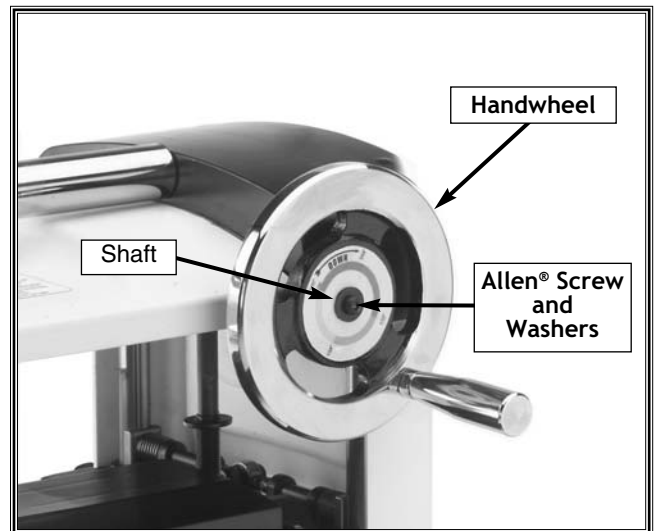

Figure 11. Handwheel mounted to the shaft.
4. Thread the Allen® screw into the end of the shaft to secure the handwheel to the shaft as shown in **Figure 11**.